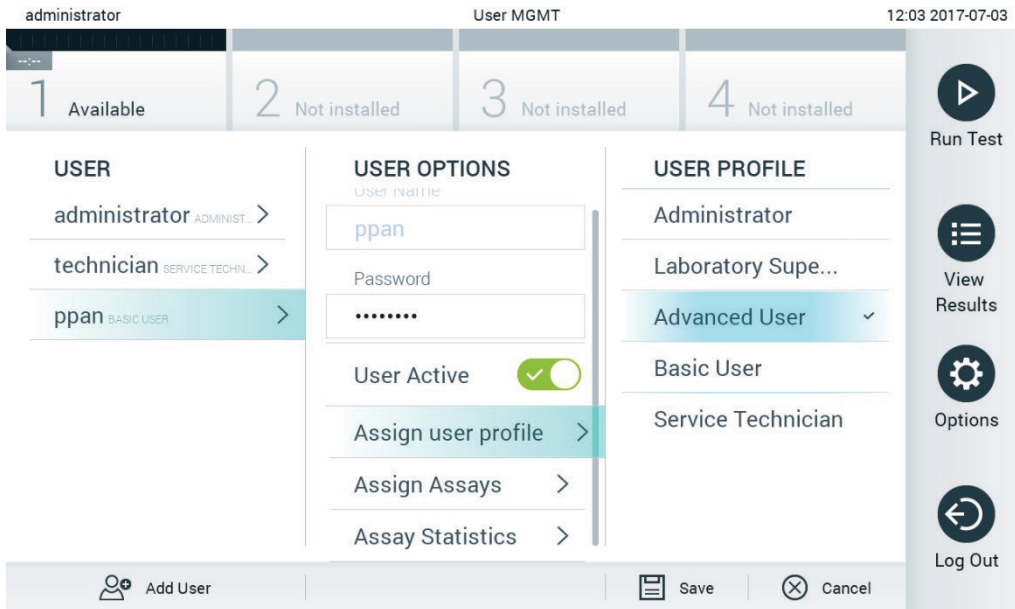

Figure 54. Assigning user profiles to users.
- **Assign User Profile:** Allows assigning a different user profile for that user (e.g., Administrator, Laboratory Supervisor, Advanced User, Basic User). Select the appropriate user profile from the list on the right of the content area (Figure 54, next page).